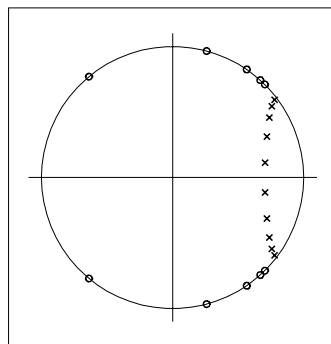

Figure 10. Poles and zeros of an elliptic lowpass filter.
**Figure 10** shows the pole-zero diagram of an elliptic lowpass filter. As can be seen, at lower frequencies our point is near to poles, and each of these poles can create a bump in the frequency response if it is close enough to the unit circle. At higher frequencies we encounter zeros, all lying on the unit circle, arranged so that in the stop band we are always close to a zero. As a result the frequency response  $H(z)$  is small and we have a high degree of attenuation. The filter design program positions the poles and zeros so that the specification for the filter is met. The number of poles or zeros is called the 'order' of the filter; each biquad stage implements two (complex conjugate) poles and two (complex conjugate) zeros.